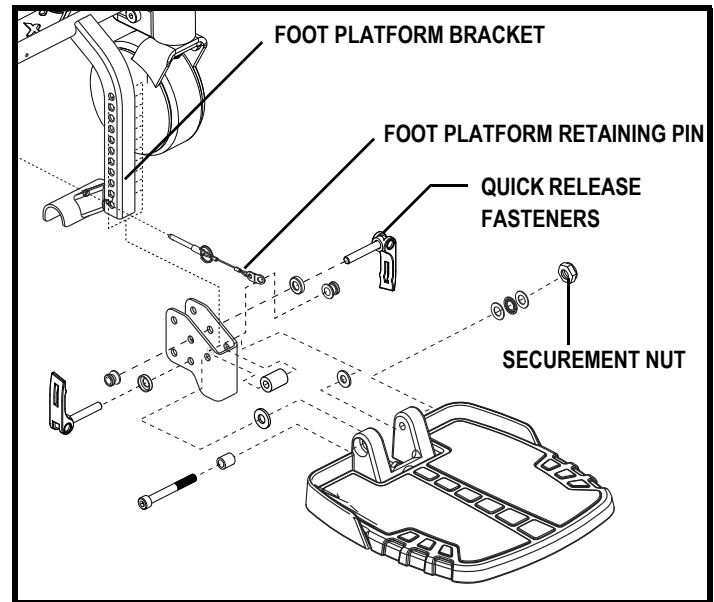
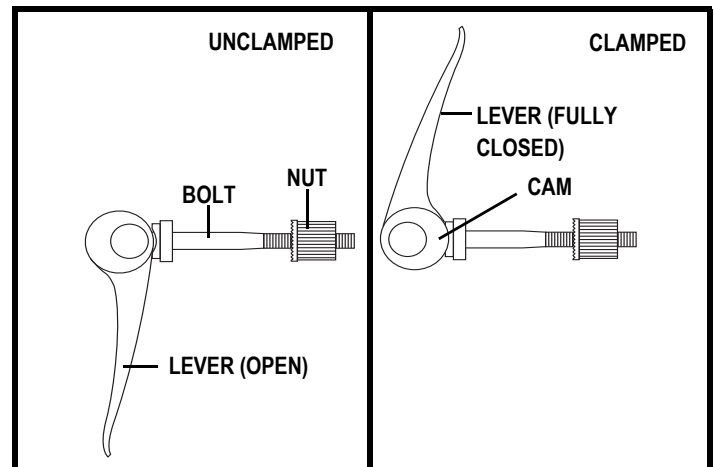

Figure 19. Foot Platform Adjustment
Figure 20. Quick Release Fastener Operation
1. Remove the quick release fasteners from the foot platform bracket. See figure 19.
**Quick Release Fasteners:** The foot platform is attached to the power base with two quick release fasteners. See figure 19. Each quick release fastener consists of a bolt, a lever, and a nut. See figure 20. The lever has a cam on the end that allows it to clamp into place. The quick release fastener has two states: clamped and unclamped. When the lever is open, the quick release fastener is unclamped. When the lever is closed, the quick release fastener is clamped.